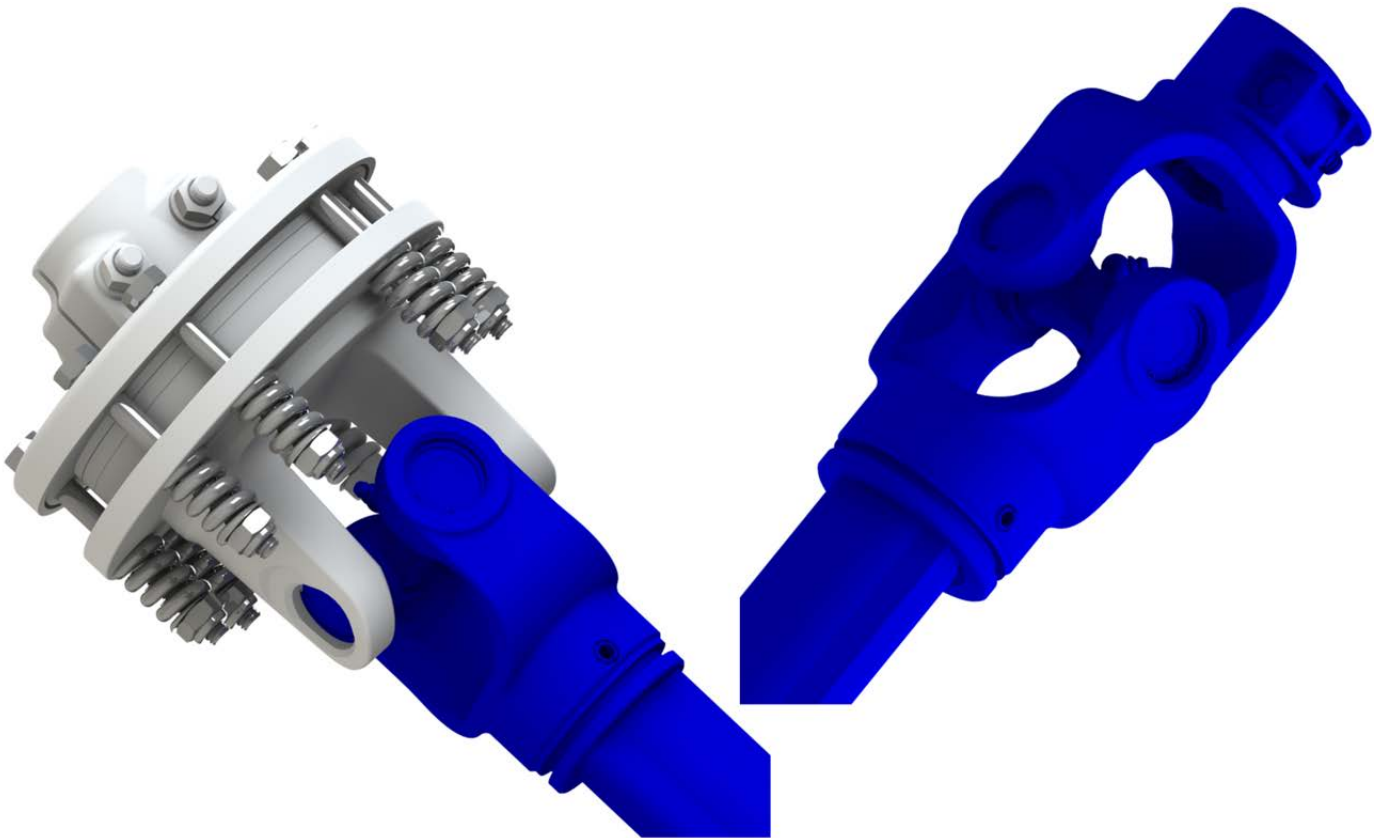

Figure 18. Disassembly Step 6
6. Pull outward on the tabs adjacent to the split in the bearing to remove the bearings from either end of the driveline. Please refer to *Figure 18*, below, for a disassembled driveline.